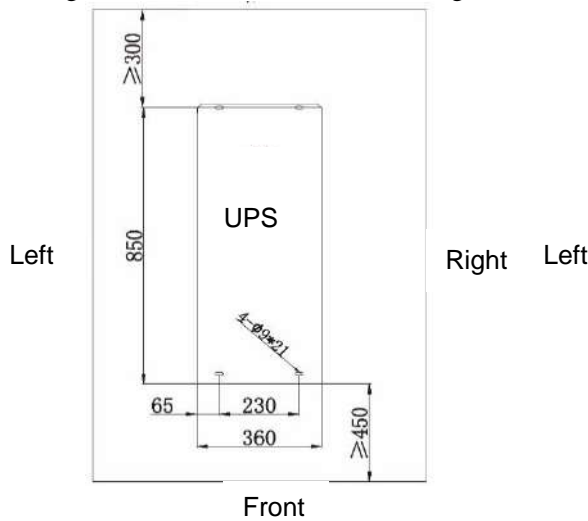
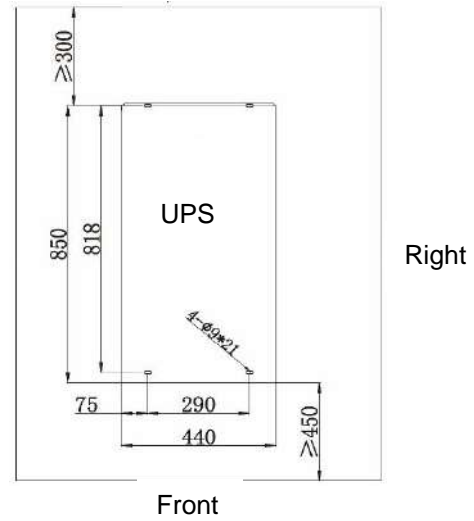

Fig. 3-4 Hole size of 40/60/80 kVA
Fig. 3-5 Hole size of 100/120 kVA
Step 1: determine the installation position and position the mounting surface according to the hole size diagram. The hole size is shown in Fig. 3-4 and Fig. 3-5.